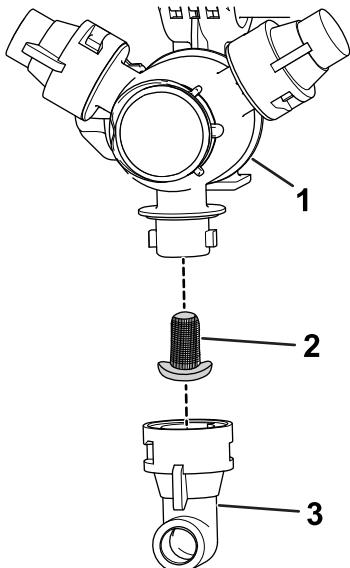

Figure 105
2. Remove the nozzle from the spray turret (Figure 105).
3. Remove the old nozzle filter (Figure 105).
4. Install the new nozzle filter (Figure 105).
5. Install the nozzle onto the spray turret (Figure 105).